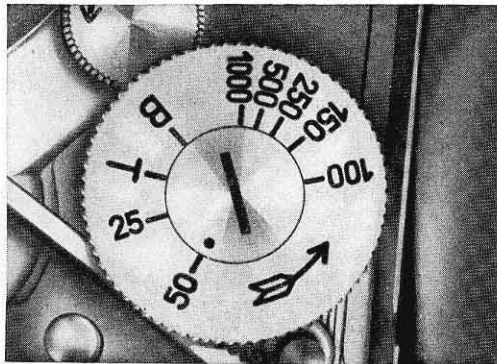

Fig. 10
The EXAKTA VX has a high precision focal-plane shutter. In order to study its working, observe the camera opened from behind. When removing the lens (see Section D, page 13), you will, on releasing, see the mirror swinging-up under the finder-hood, that no stray light may get into the interior of the camera. The ground-glass image, therefore, is not visible, unless after picture taking the shutter has been wound again. The focal-plane shutter of the EXAKTA VX is remarkable by its great variety of exposure. With the fast speed knob (8) (Fig. 10) the exposures of  $1/1000$